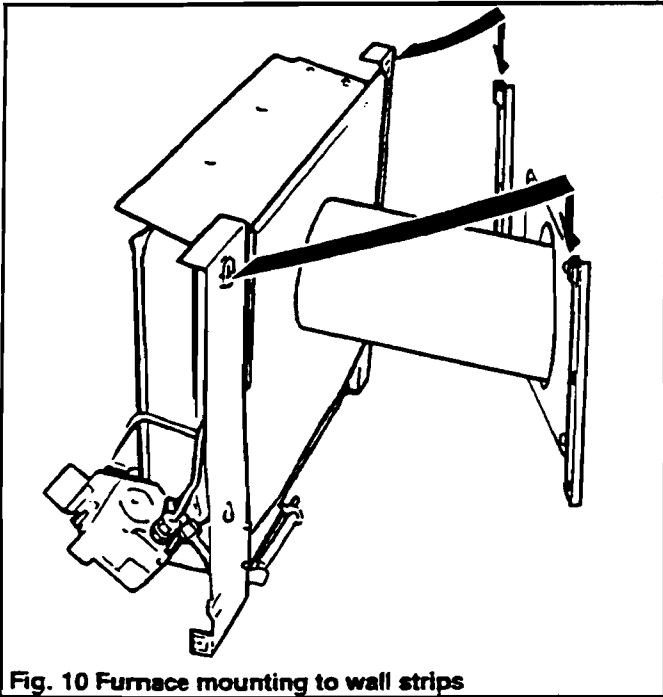

Fig. 10 Furnace mounting to wall strips
- 6.7 Lift the furnace & vent unit. Insert the vent unit into the cavity in the wall. Push the furnace up to the wall mounting strips. The hooked ears at the top of the wall mounting strips must pass through the keyholes near the top each side of the furnace back panel (Slightly tilt the furnace if necessary to engage the ears). Let go of the furnace so that it hangs from the hooked ears. (see figure 10).